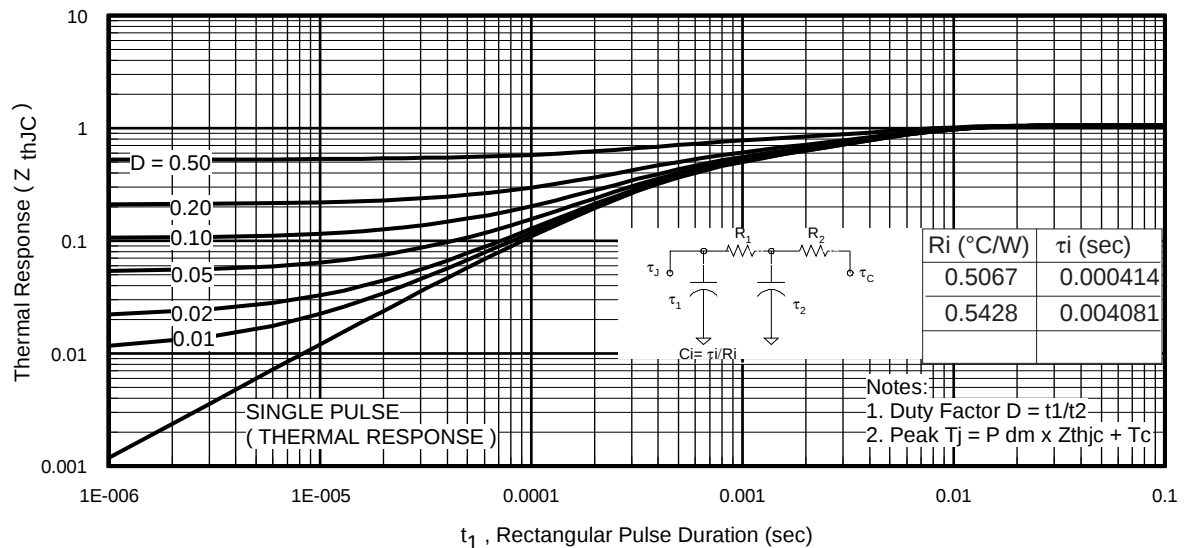
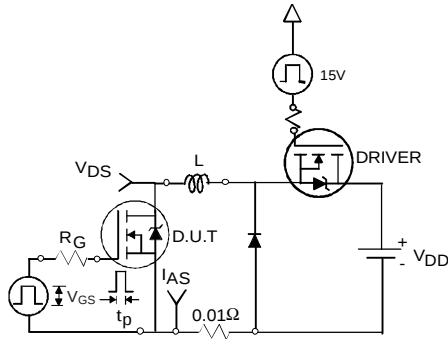

Fig 11. Maximum Effective Transient Thermal Impedance, Junction-to-Case
Fig 12a. Unclamped Inductive Test Circuit
3. Equation below based on circuit and waveforms shown in Figures 12a, 12b.
$Z_{thJC}(D, t_{av})$ = Transient thermal resistance, see figure 11)
- ① Repetitive rating; pulse width limited by max. junction temperature. (See fig. 11).
- ② Limited by T_{Jmax} , starting $T_J = 25^\circ\text{C}$, $L = 0.16\text{mH}$, $R_G = 25\Omega$, $I_{AS} = 42\text{A}$, $V_{GS} = 10\text{V}$. Part not recommended for use above this value.
- ③ Pulse width $\leq 1.0\text{ms}$; duty cycle $\leq 2\%$.
- ④ C_{OSS} eff. is a fixed capacitance that gives the same charging time as C_{OSS} while V_{DS} is rising from 0 to $80\% V_{DSS}$.
- ⑤ Limited by T_{Jmax} , see Fig.12a, 12b, 15, 16 for typical repetitive avalanche performance.
- ⑥ This value determined from sample failure population. 100% tested to this value in production.
- ⑦ When mounted on 1" square PCB (FR-4 or G-10 Material). For recommended footprint and soldering techniques refer to application note #AN-994